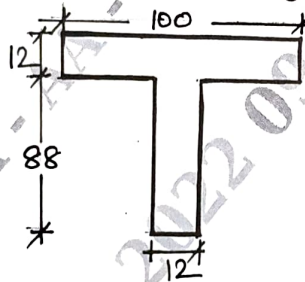

Fig Q5(b)- i)
b. Draw shear stress distribution indicating values at salient points. Fig Q5(b)- i) and ii)